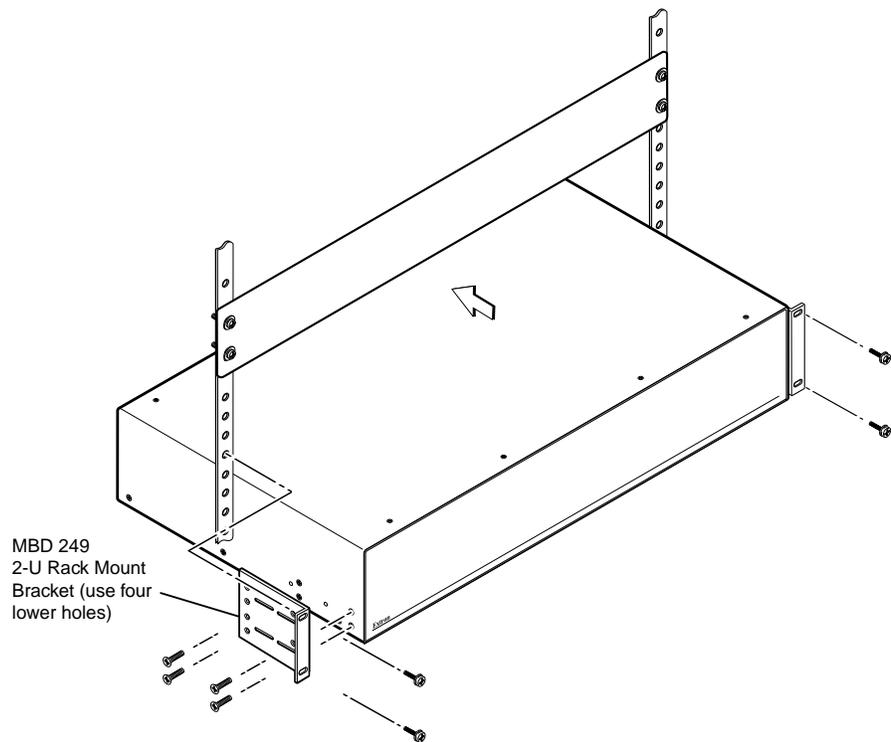

Figure 2-1 — Mounting the seamless switcher
The following Underwriters Laboratories (UL) guidelines pertain to the installation of the ISS 506 into a rack (figure 2-1).
1. Attach the included MBD 249 rack/through-desk mounting brackets to the unit, using eight machine screws supplied with the mounting kit (figure 2-1). Use the lower screw holes in the brackets.